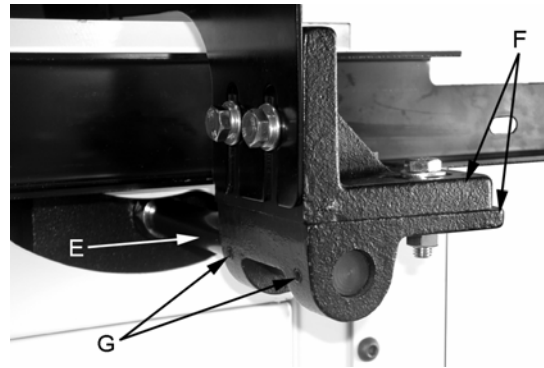

Figure 34
1. With a 3mm hex wrench, loosen two set screws (G, Fig. 34) on the splitter guard assembly and remove the bracket.
3. Thread the blade guard shaft (E, Fig. 34) into rear trunnion through opening at rear of saw.
5. Place upper and lower bracket assembly (F, Fig. 34) in the upright position and snug two set screws (G, Fig. 34) just enough to hold in place.
2. Tighten two set screws (G, Fig. 34) on the bracket assembly.